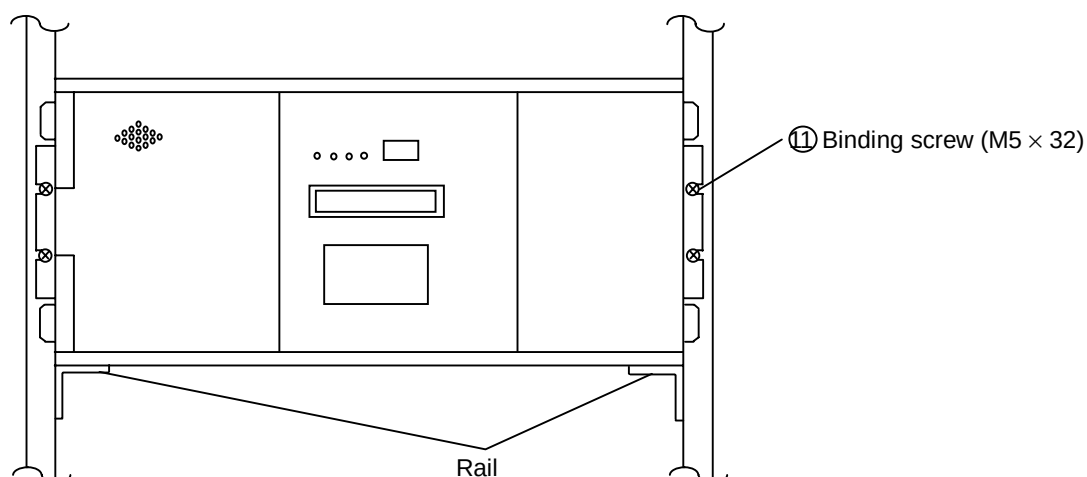

Figure 1.4.7 Securing the Front Side of the Subsystem
1.4.6 Securing the front side of the subsystem (See Figure 1.4.7.)